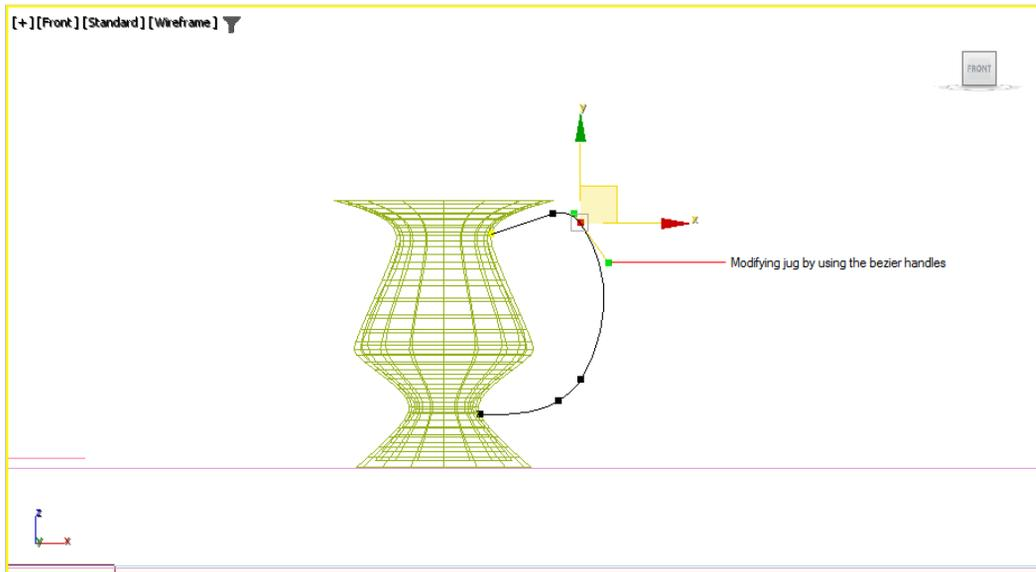

Figure 5-18 The Handle modified by moving the bezier handles
7. Invoke the **Select and Move** tool from the **Main Toolbar** and right-click on the second vertex. Choose **Bezier** from the quad menu and then move *Handle* to get the desired curve. Similarly, modify the rest of the vertices of *Handle* as needed to form a curved shape, as shown in Figure 5-18.